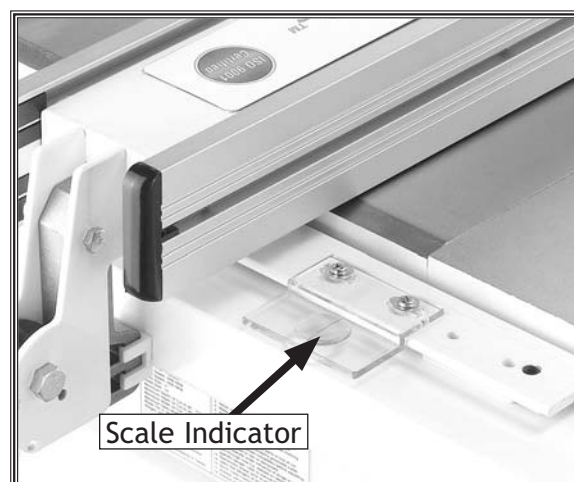

Figure 27. Scale indicator.
4. Install the clear scale indicator to the right of the fence with the #10-24 x 3/8" Phillips head screws and #10 washers (**Figure 27**).